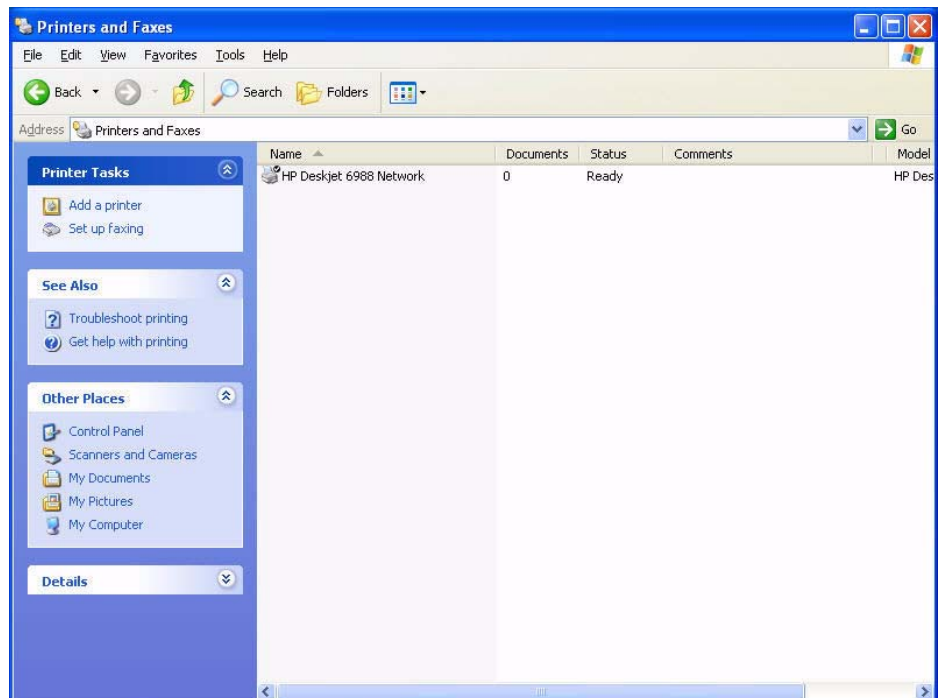

Figure 2 Printer and Faxes Dialog
3. Select **Start > Printers and Faxes** to access the Printers and Faxes dialog as shown in Figure 2.